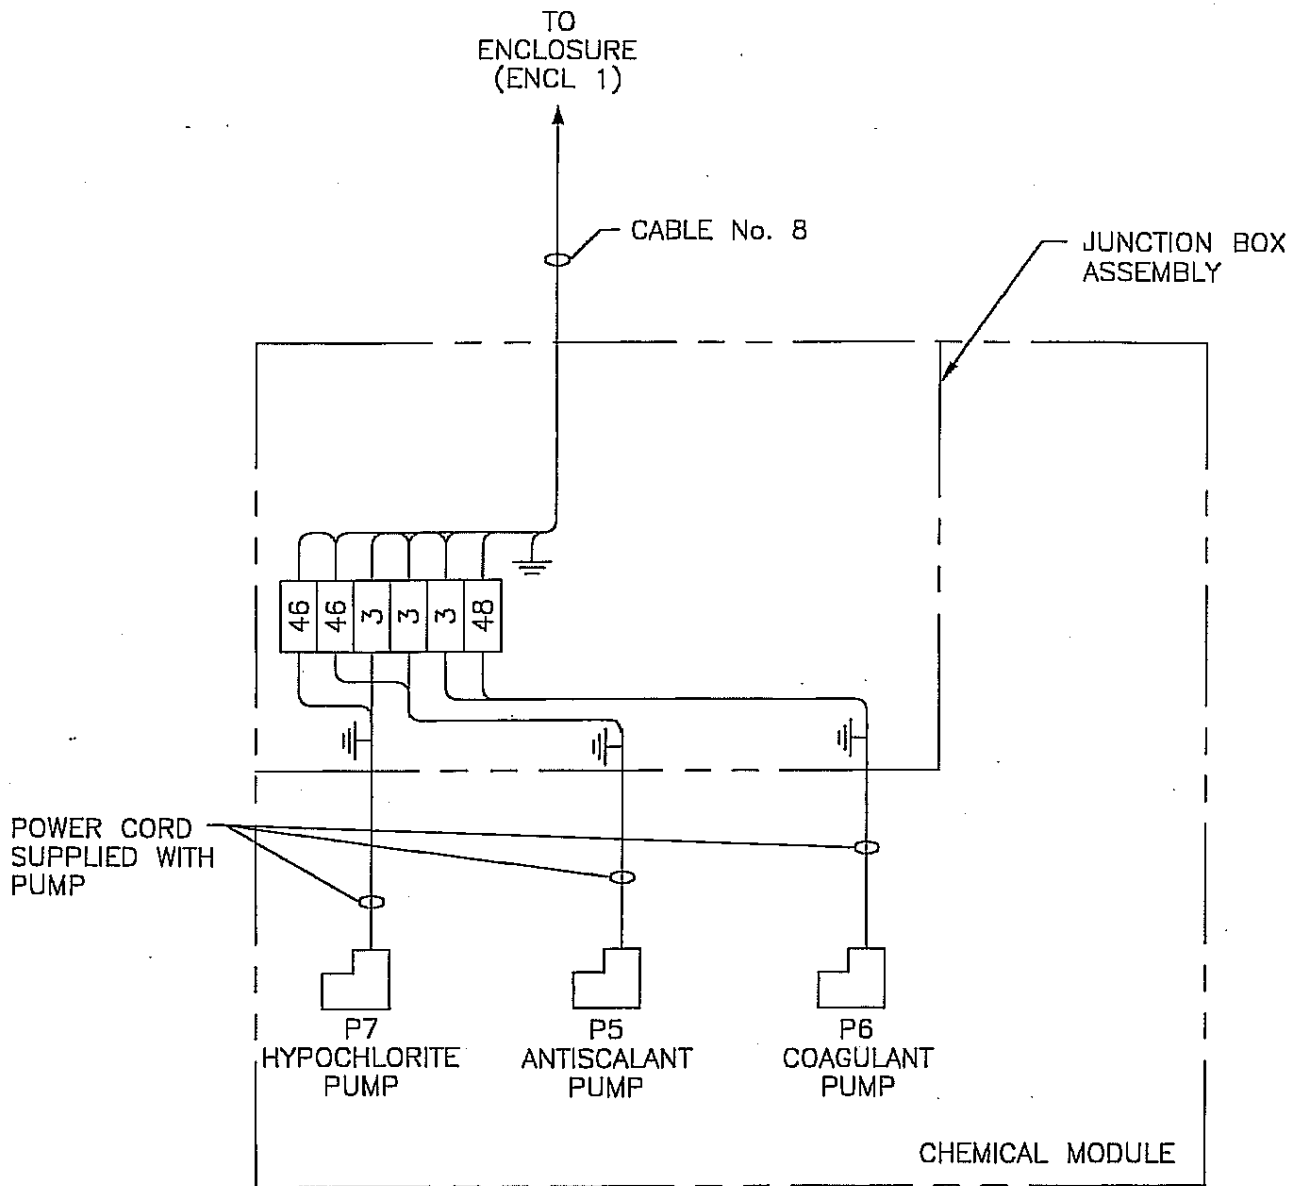

Figure 4. Chemical module Wiring Diagram.
4. Connect wiring to terminals on terminal block. Reuse the wire number tags from the old wires. Refer to Figure 4.